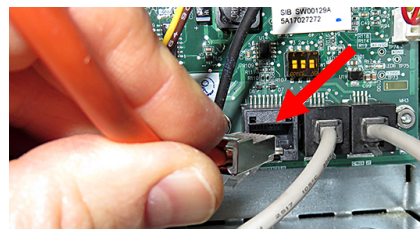

Figure 6
7. Disconnect the orange RJ45 controller cable from the SIB board (see Figure 6).